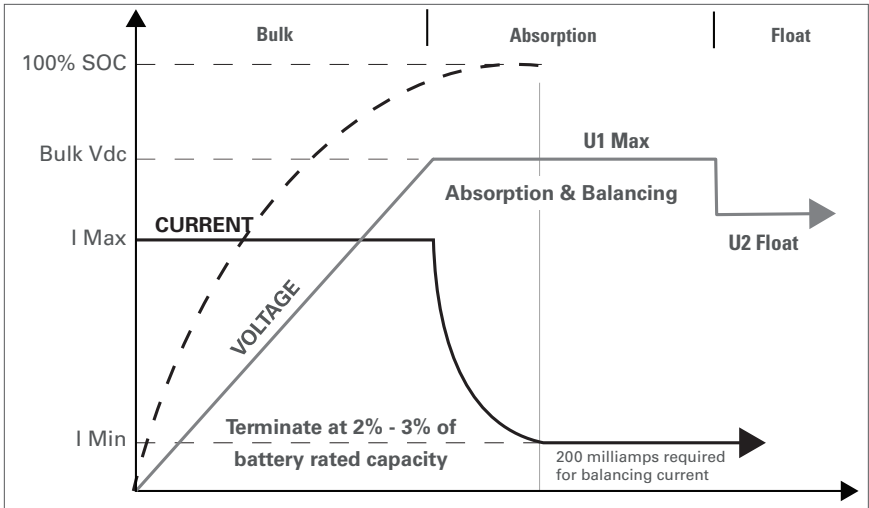

Figure 8. Charge Graph.
For charging parameters refer to **Table 2-1. DLB Electrical Specifications** and **Figure 8 DLB Charge Graph**.
- **It is possible.** Short-term charging with a lead-acid charger is possible only if the bulk and absorption voltages are equal to or below the bulk voltage. Refer to **Table 2-1 DLB Electrical Specifications** for charging parameters and **Figure 8 DLB Charge Graph**.